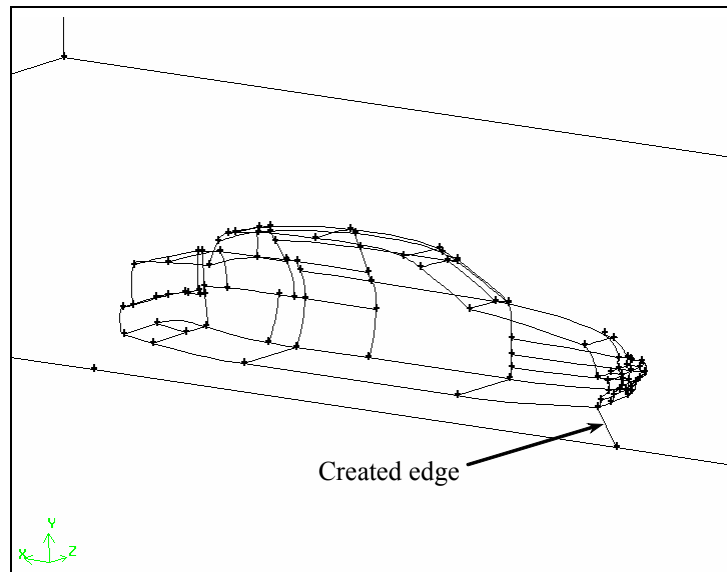

Figure 5-19: Edge from bottom of symmetry plane to front of sedan
- b) Zoom in to the front of the sedan, so that you can see the front bumper and the first vertex created on the edge at the bottom of the symmetry plane, as shown in Figure 5-19.
- d) *Shift*-left-click the vertex on the sedan that is also on the symmetry plane, as shown in Figure 5-19.
- e) Click **Apply** to accept the selected vertices and create an edge, as shown in Figure 5-19.